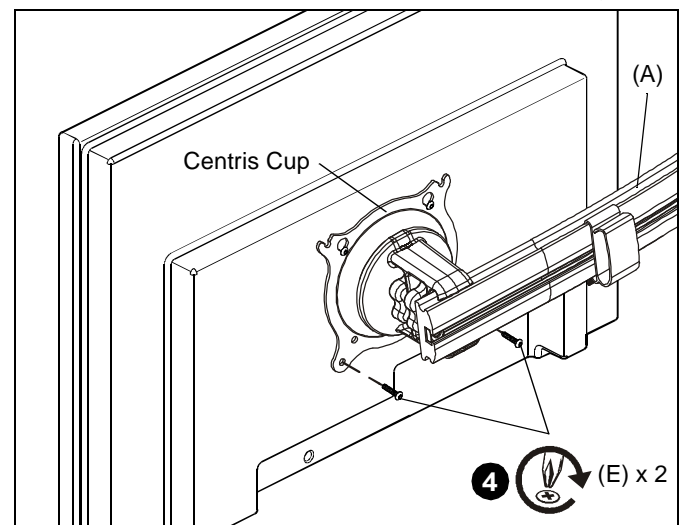

Figure 3
4. Install two M4 x 12mm Phillips head cap screws (E) through the *lower* mounting holes in Centris cup into the display. (See Figure 3)